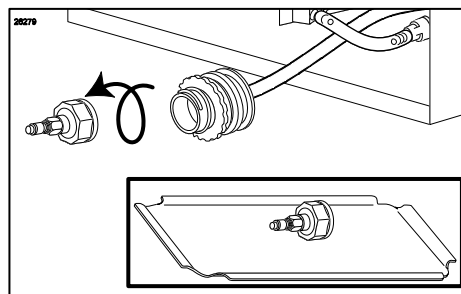

Figure 69
21. Remove the Syrup Bag Adapter from the Pump Flush Adapter and set it on a sanitary tray to air dry. (See Figure 69.)